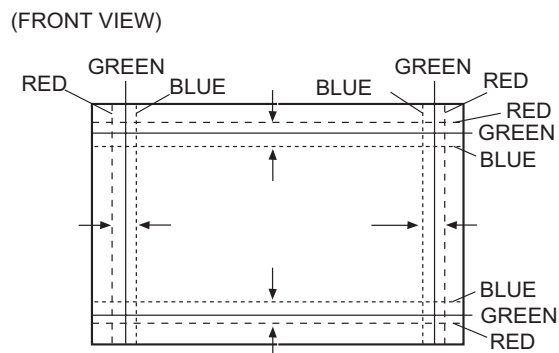
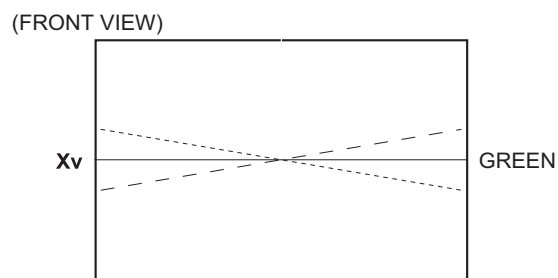

Fig. 6
Fig. 7
- (2) Move the deflection yoke from the left to the right and overlap the lines in the periphery. (Fig. 6)
- (3) Repeat (1) and (2) above, and make the best convergence.
- (4) Adjust XV by XV coil. (Fig.7)